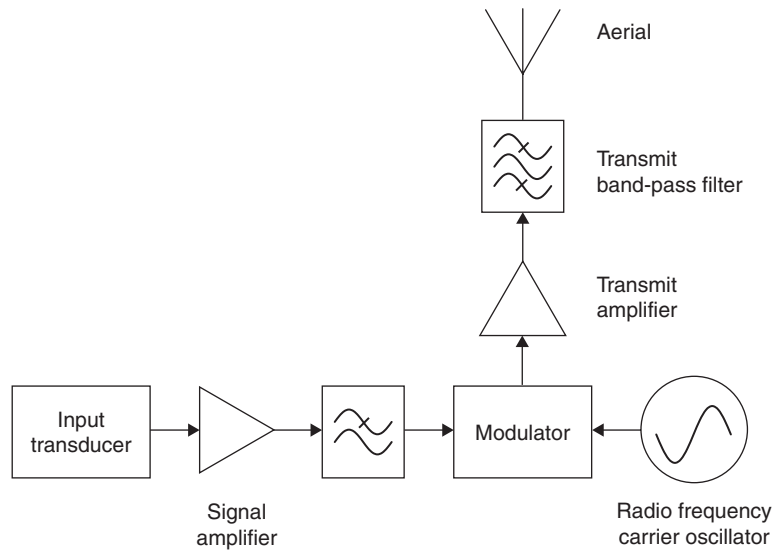

Figure 16.7 Simplified block diagram of a radio transmitter
Since the early 1920s, radio communication has concentrated on varying either the amplitude or the frequency of the carrier wave itself so as to transmit audio and other signals of lower frequency. Such a process is called modulation: the radio frequency carrier wave (RF) is **modulated** by the audio frequency (AF) signal. Figure 16.7 shows a block diagram of a transmitter.